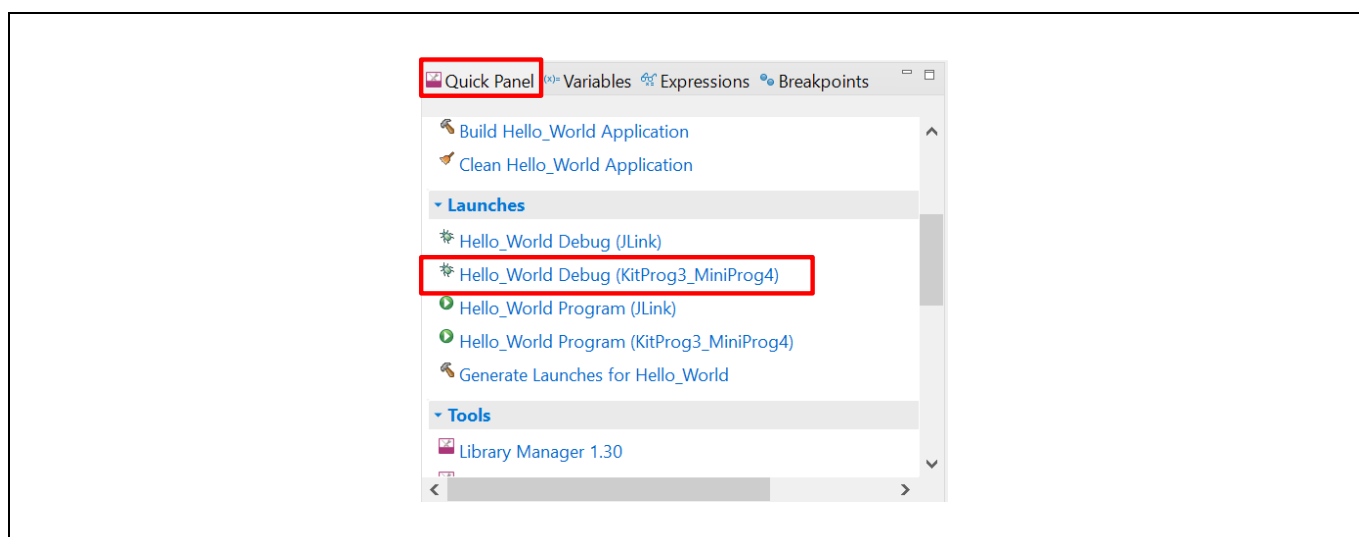

Figure 14 Debugging in ModusToolbox™ software
- ModusToolbox™ software has an integrated debugger. To debug a PSoC™ 6 MCU application, in the Project Explorer, select **<App_Name>** project. In the Quick Panel, scroll to the **Launches** section and click the **<App_Name> Debug (KitProg3_MiniProg4)** configuration as shown in Figure 14. For more details, see the “Program and debug” section in the Eclipse IDE for ModusToolbox™ user guide.